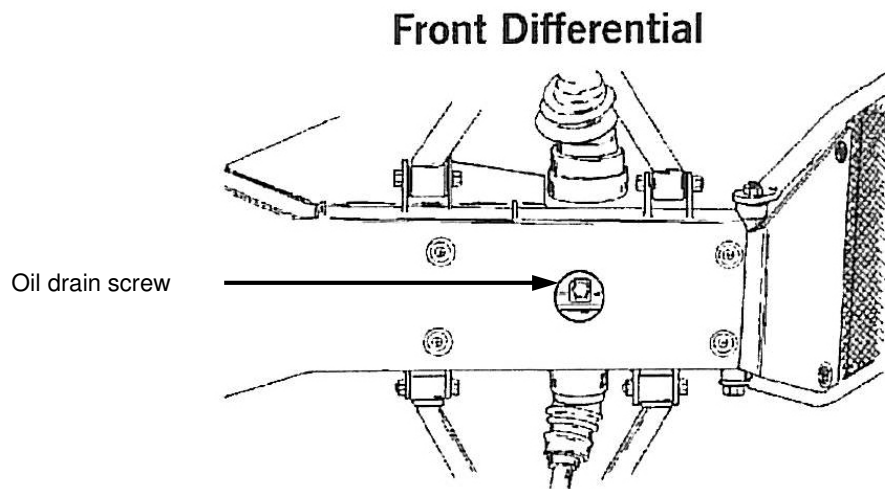

Fig. 1: oil drain screw front differential
2.) Remove the oil drain screw (see Fig. 1 on page 2) from the front differential case and the fill-up plug. Make sure that the gear oil is disposed of as instructed by the environmental regulation.